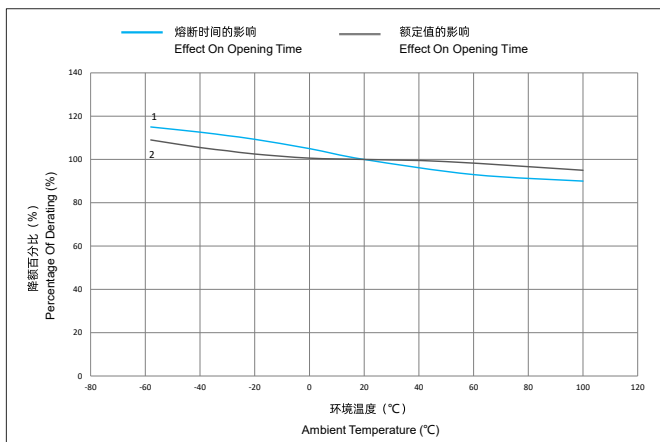

图2 FIGURE 2
- 图2表示环境温度对快速熔断型熔断器承载能力及  $5I_N$  熔断时间的影响。
Fig.2 effect on rating and opening time in  $5I_N$  of fast acting fuse.